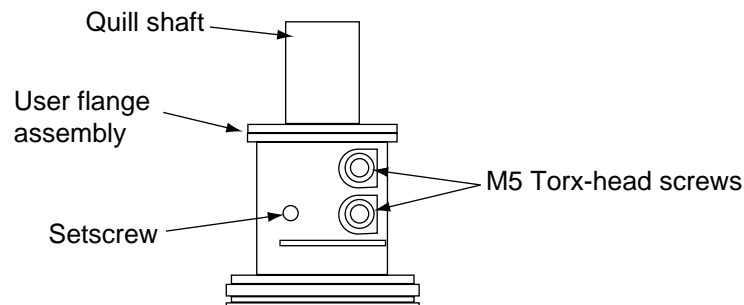

Figure 2-20. User Flange Removal Details
3. Use a 2.5 mm Allen driver to loosen the setscrew, see Figure 2-20. Note the vertical-spline groove that is in line with the setscrew. You must replace the flange in the same position.